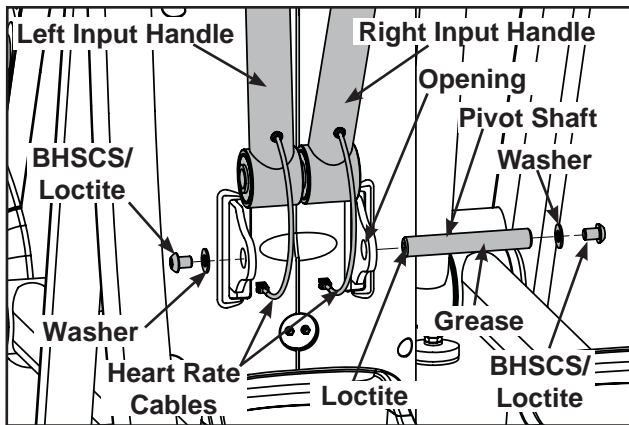

Figure 3
B. Unplug the heart rate cable. See Figure 3.
C. Using two 7/32" Allen wrenches, remove the BHSCS and washer from the pivot shaft. See Figure 3.
- D. Slide the pivot shaft through main frame opening to remove input handles. See Figure 3.
- A. Position right input handle vertically and align handle opening with mainframe opening. See Figure 3.
- B. Insert pivot shaft into mainframe and handle openings. See Figure 3.
- E. Apply loctite (H) to the two BHSCS (removed in step 5C) and into where they will be threaded.
- F. Using two 7/32" Allen wrenches, attach the two BHSCS/Loctite and two washers to the pivot shaft. See Figure 3. **NOTE:** Handle will wobble if not securely tightened.